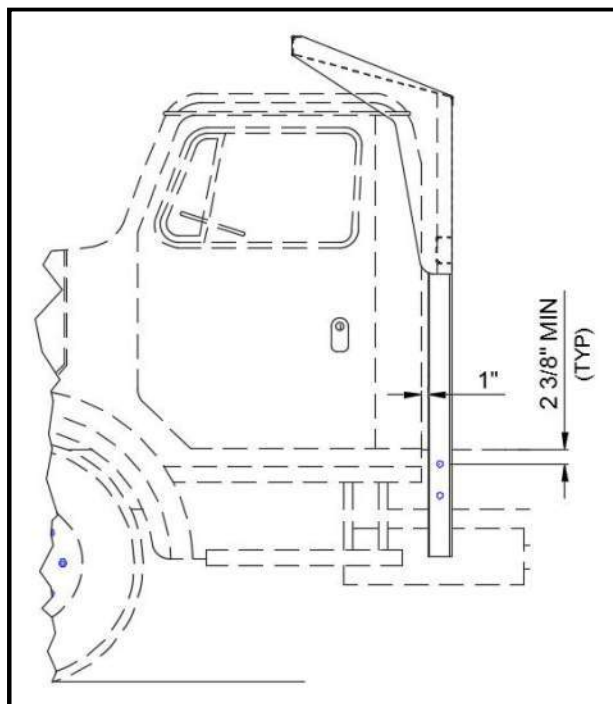

Figure 1
3. Determine location for mounting holes. Mounting holes should not be located within 2 3/8" of the truck frame edge (see Figure 1). Drill Ø21/32" mount holes through cab guard channels.